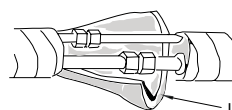

Fig. 7
(4) Wrap the indoor pipe and joint of connection pipe with insulating pipe, and then wrap it with tape. (As show in Fig.7)